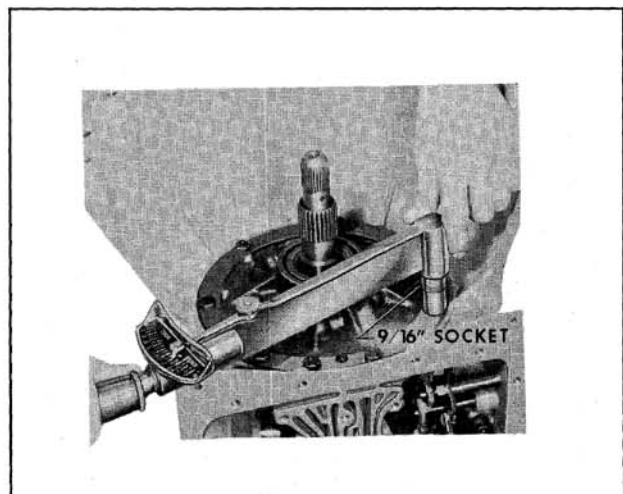

Fig. 6-515 Installing Pump Attaching Bolts
8. Tighten bolts evenly and torque 16 to 24 ft. lbs. (Fig. 6-515)